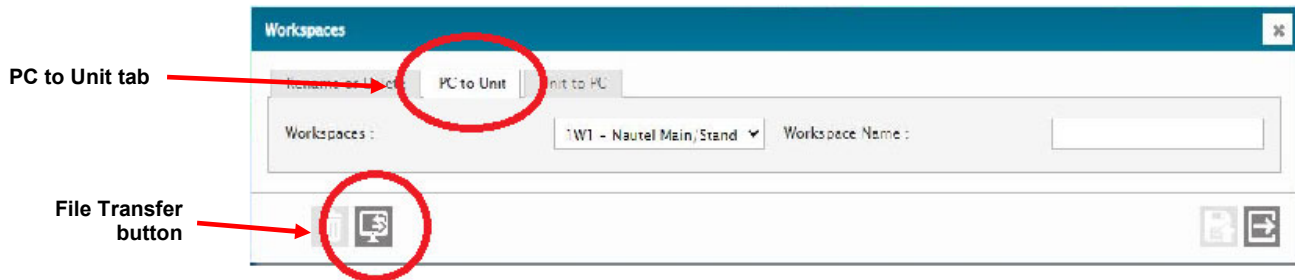

Figure 4: System – Workspaces screen
- (a) Select **System ► Workspaces** from the dropdown menu along the top of the screen. The menu in Figure 4 will appear.